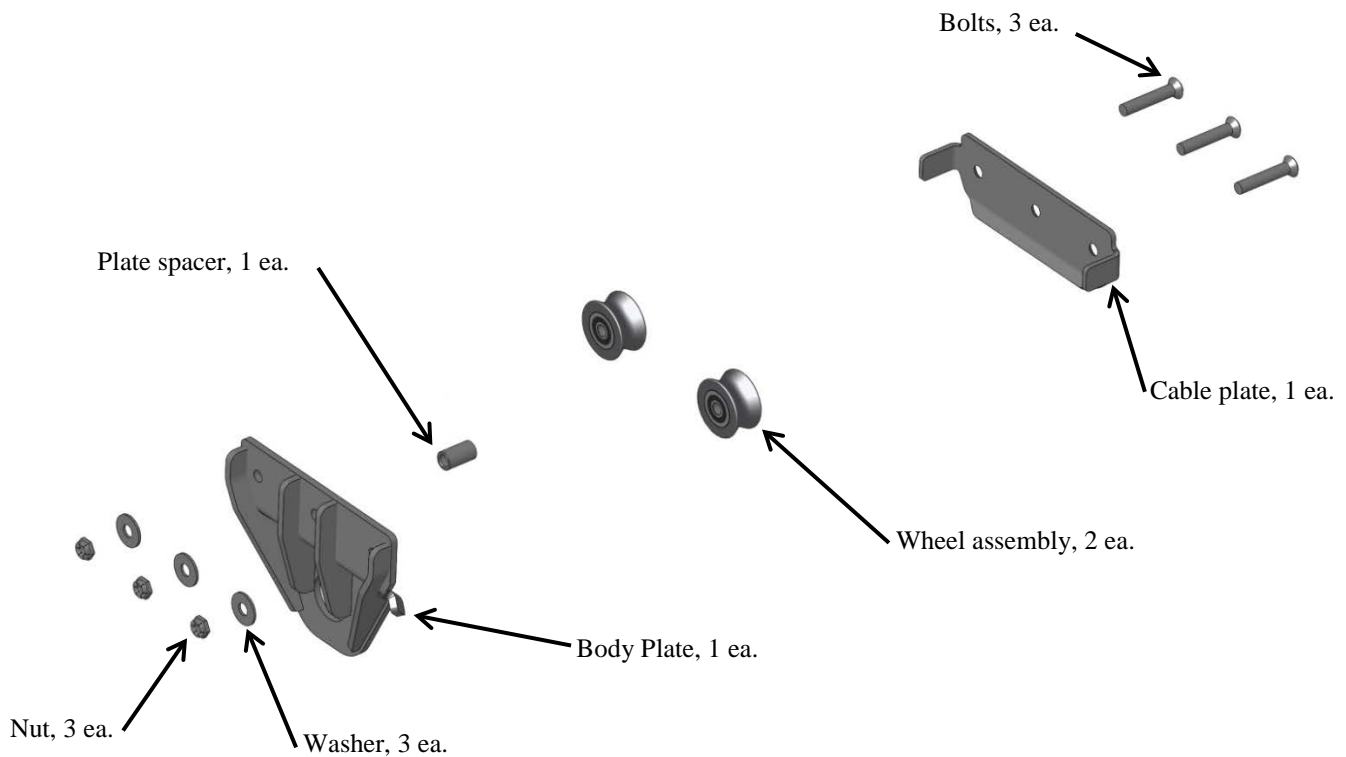

Fig. 2 Hands-Free Traveler, exploded view
1. Using a 3/16-in. allen wrench and a 1/2-in. box end wrench, loosen the 3 nuts holding the traveler together. The nuts do not need to be fully removed, but loosened fully to allow the Cable Plate to slide away from the Body Plate (see Figure 2 for parts identification).